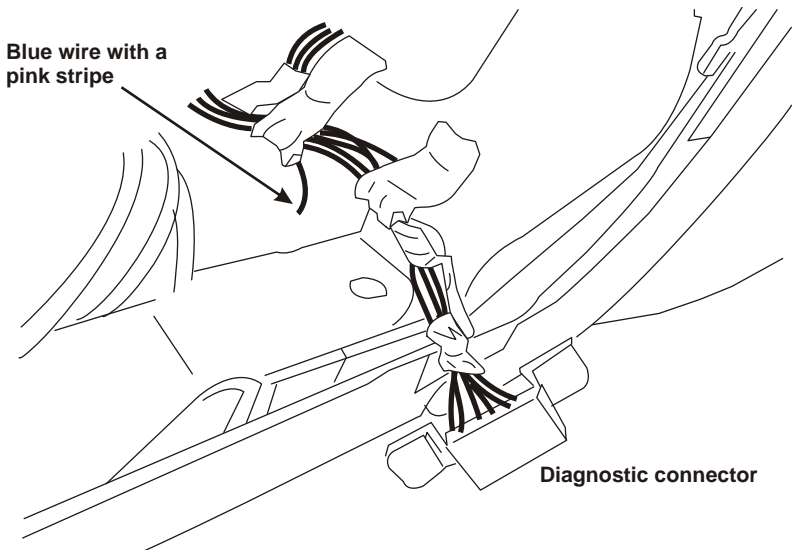

Figure 4.10
- For 1999-2001 models, this wire is blue with a pink stripe (Figure 4.10). On some 1999 vehicles this wire is red with a yellow stripe.